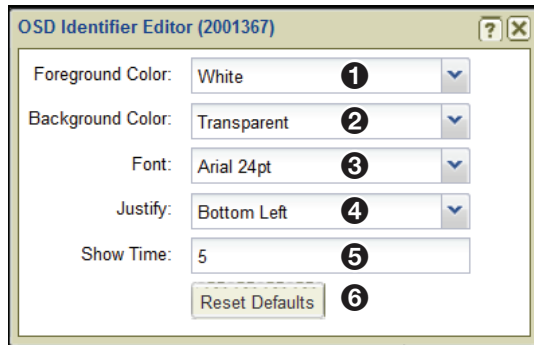

Figure 59. VNM 250 OSD Identifier Editor
Select this option (see figure 57, ③ on the previous page) to customize the appearance of the **on-screen display** for the selected device or devices (see figure 59).